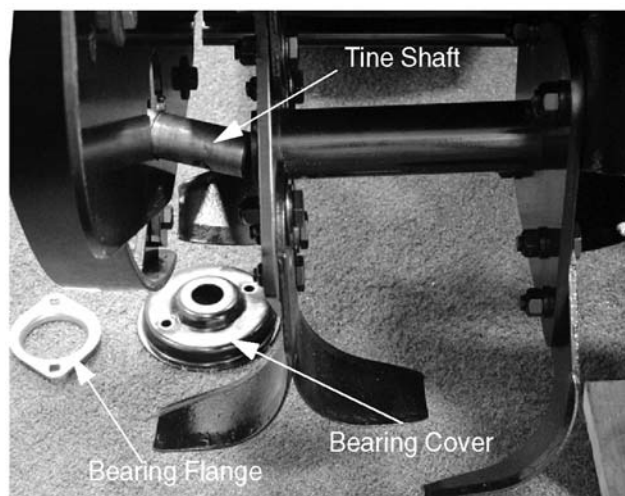

Figure 8-109.
- Remove the bearing, O ring seal, and tine shaft. See Figure 8-109.